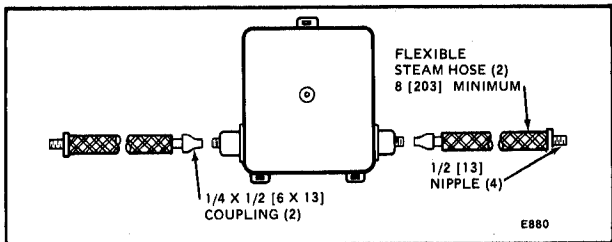

FIG. 2—RECOMMENDED TUBING FITTINGS.
**NOTE:** To prevent strain on the bellows, use the proper fittings when connecting the tubing or pipe to the bellows connections (see Fig. 2). Use care when running lines so that pipe dope and scale do not get into the internal lines.